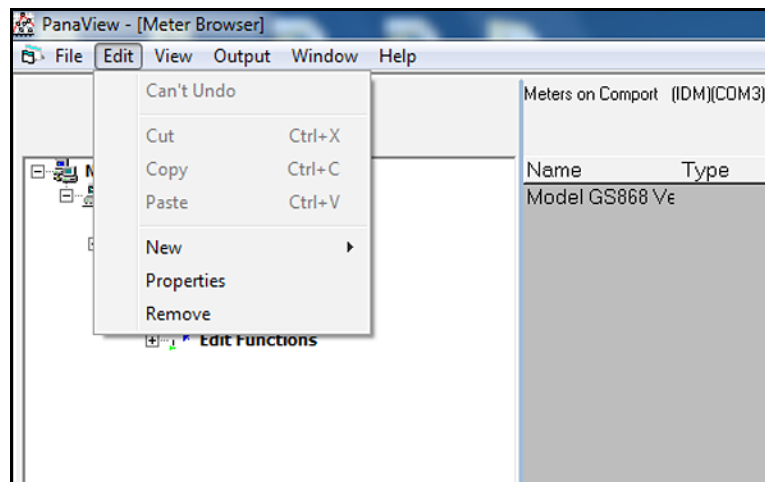
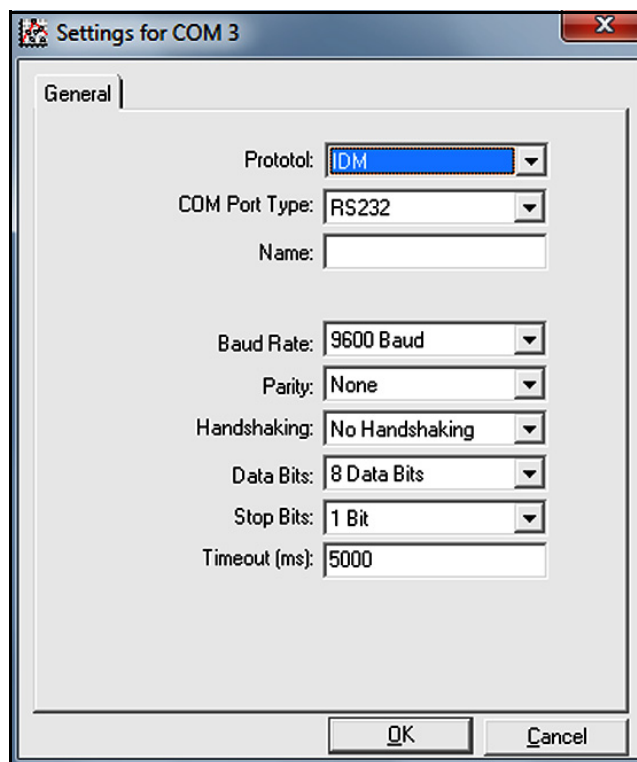
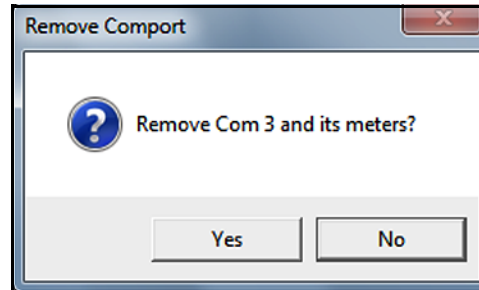

Figure 51: The Edit Menu
Figure 52: Communication Port Settings
Figure 53: Port Removal Confirmation
3. With the desired communication port highlighted, open the edit menu as shown in *Figure 51* below.
1. From the "Edit" menu shown in Figure 51 on page 43, Click "Properties" option to open the dialog box shown in Figure 52 below.
1. From the "Edit" menu shown in Figure 51 on page 43, Click "Remove" option to open the dialog box shown in Figure 53 below.